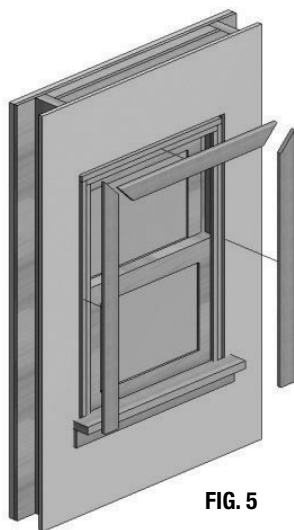

FIG. 5
- A) If required, remove interior trim. If you plan to reuse interior trim, remove with caution. (Fig. 5)